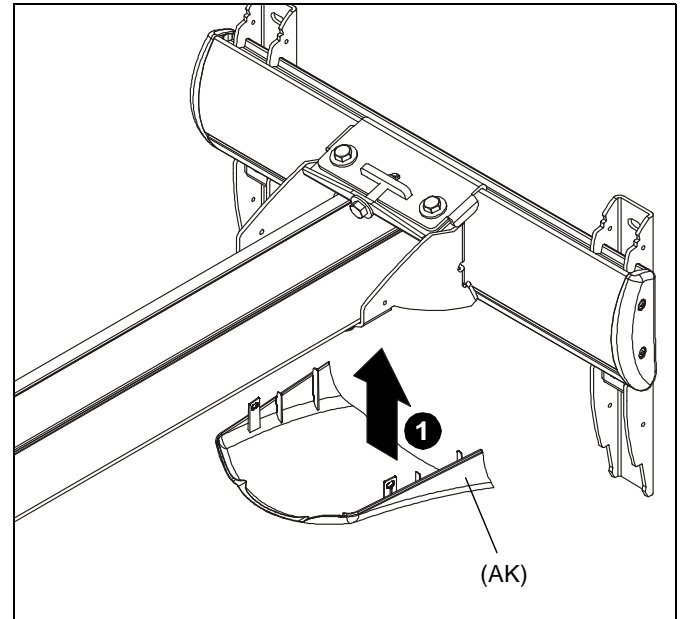

Figure 50
- Raise the lower cover (AK) to wall mount and hold in place. (See Figure 50)